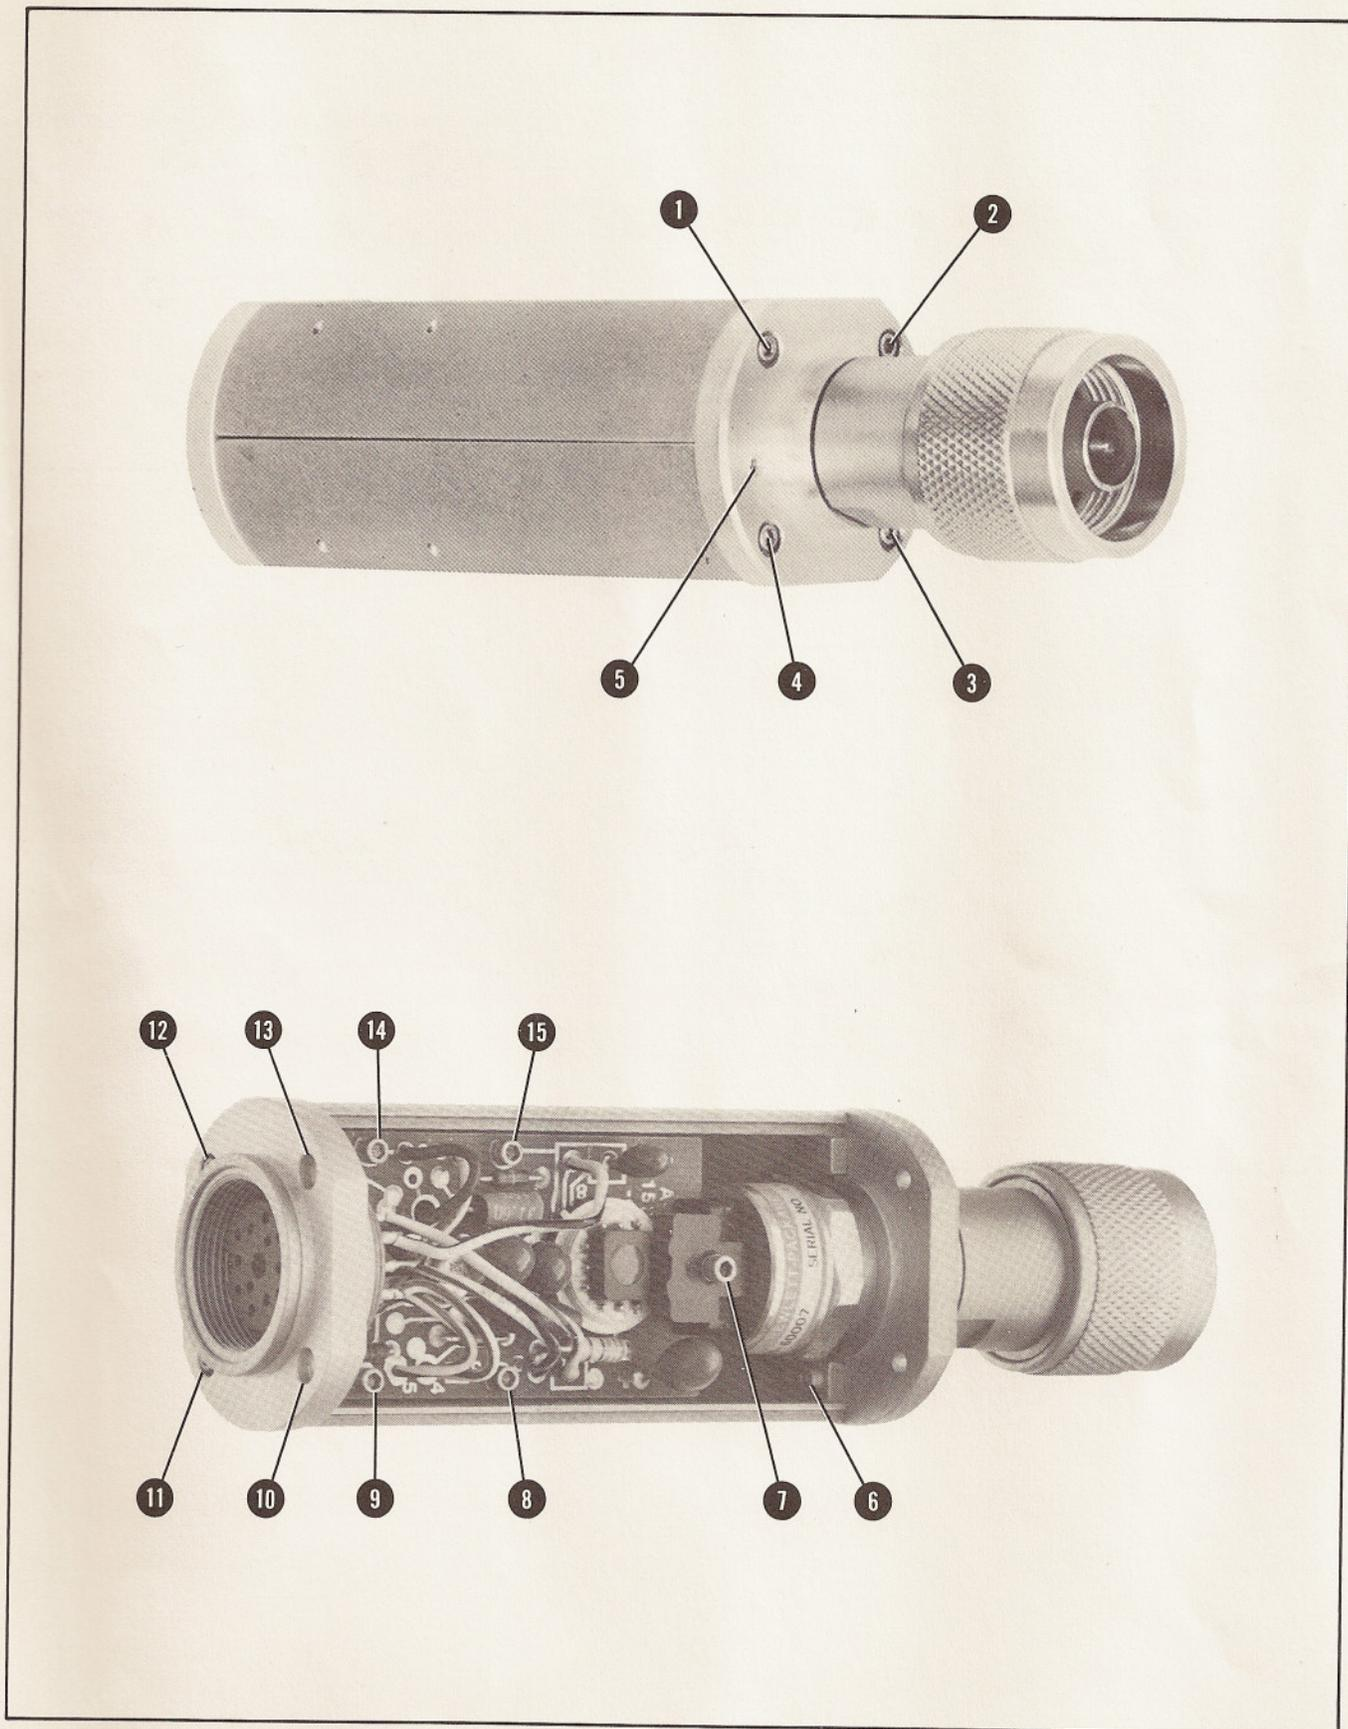

Figure 7. Power Sensor Hardware Locations
c. Position the Power Sensor as shown in Figure 7 (top). The small hole ⑤ should be on the left side of the RF input connector. Remove the allen cap screws ①, ②, ⑩, and ⑬. Loosen ⑪ and ⑫. Remove the upper chassis from the Power Sensor.
d. Remove the spring clamp cap screw ⑦ to free the gold leads which come from the Bulkhead Assembly.
e. Remove cap screws ③, ④, and ⑥.
g. Remove cap screws ⑧, ⑨, ⑪, ⑫, ⑭, and ⑮.
b. Cap screws ⑧, ⑨, ⑪, ⑫, ⑭, and ⑮ must be inserted but not tightened. Refer to Figure 7.
c. Center the circuit board so there is equal air gap between each side and the chassis. Tighten ⑧, ⑨, ⑭, and ⑮.
d. With small hole ⑤ to the left, carefully insert the gold leads on A1 bulkhead assembly through the holes in the black plastic guide on A2 input amplifier.
e. Insert screws ③, ④, and ⑥. Tighten only screw ⑥.